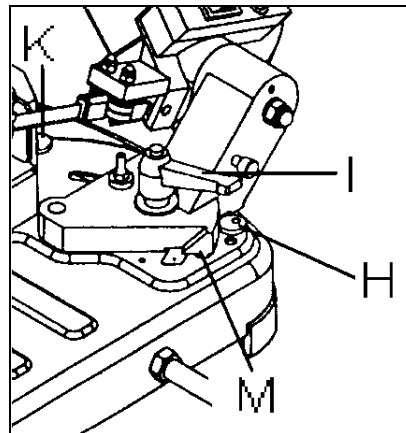

Fig 8
The machine body can be adjusted for square and mitre cuts. Loosen the indexable knob (I, Fig 8) and adjust the mitre angle according to scale (M).